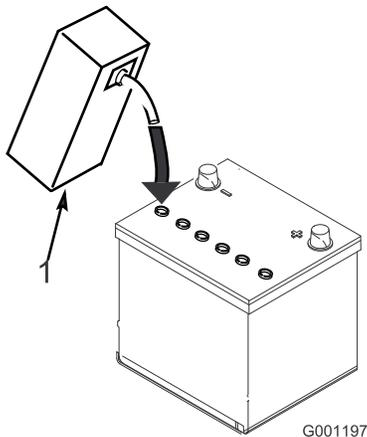

Figure 10
3. Carefully fill each cell with electrolyte until the plates are covered with about 1/4 inch (6 mm) of fluid (Figure 10).
4. Allow approximately 20 to 30 minutes for the electrolyte to soak into the plates. Refill as necessary to bring the electrolyte to within about 1/4 inch (6 mm) of the bottom of the fill well (Figure 10).